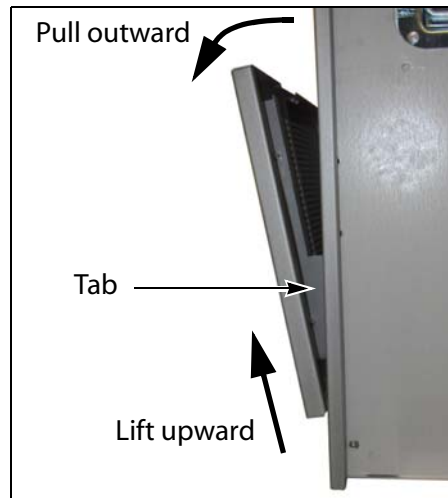

Figure 2-1 Removing the filter cover panel.
1. From the front of the library, pull firmly outward on the top edge of the filter cover panel to release the magnetic latches and tip the cover out from the front panel (Figure 2-1).